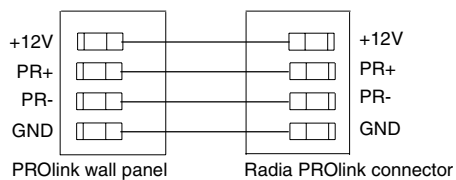

FIG. 18 PROlink wiring diagram
The low-voltage area in the AMX Lighting controllers contain connections and DIP switches for AXlink, PROlink, dry closures, and module jack connectors. On the controller cards, low-voltage power for the board is supplied either by line power, optional auxiliary power supply (RDA-PSM), or the +12 VDC pin on the AXlink connector. There is also a green status LED on the controller circuit board that blinks, according to the current operating status of AXlink and red LEDs, one for each of the external connectors for additional modules. Figure 18 shows an example of the low-voltage connections, DIP switches and LEDs using the RDD-DM4 controller.
3. FIG. 18 shows how to wire the PROlink connector to a PROlink wall panel.